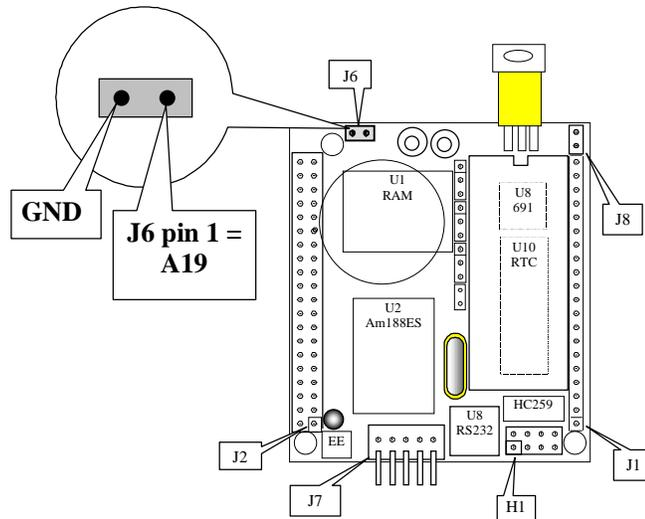

Figure 1.4 Location of Step 2 jumper on the A-Core (J6)
- Set the jumper on J6 pins 1-2 on the A-Core (Figure 1.4).